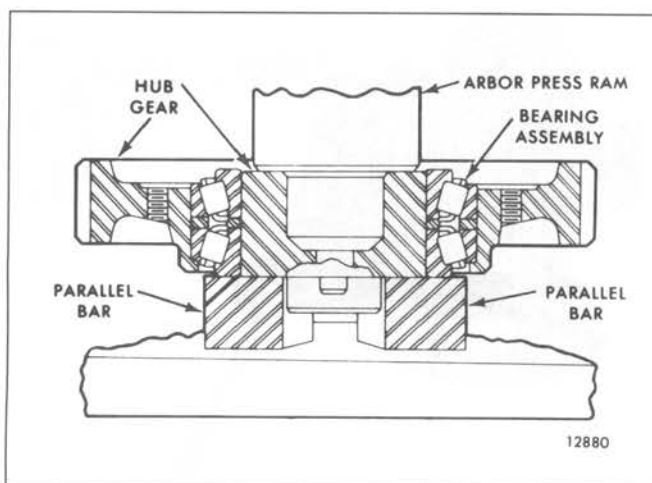

Fig. 5 - Pressing Hub into Idler Gear Bearing
7. Press the outer idler gear bearing cone over the hub while rotating the gear to seat the rollers properly between the cones. The bearing cones must be supported so as not to load the bearing rollers during this operation (Fig. 5).